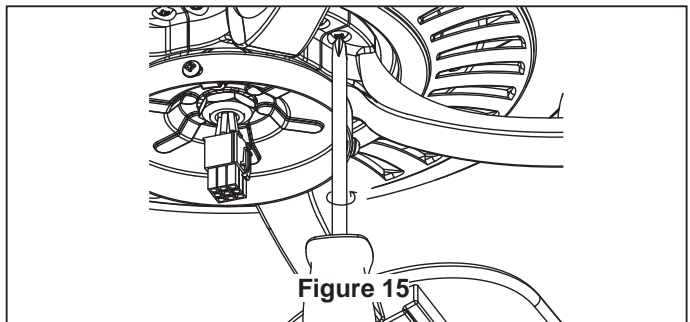

Figure 15
3. Secure the blade holders to the motor support using the 1/4-20 x 15 mm screws through the holes located on the side of the motor support. (Figure 15)